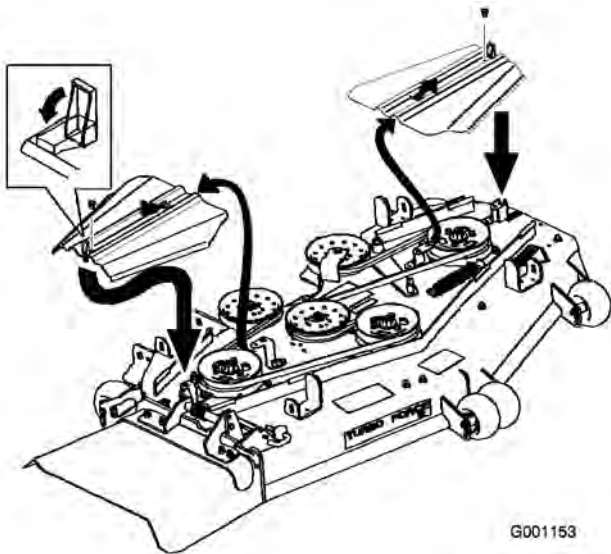

Figure 27
2. Remove the belt covers and bolts on international machines (Figure 27).